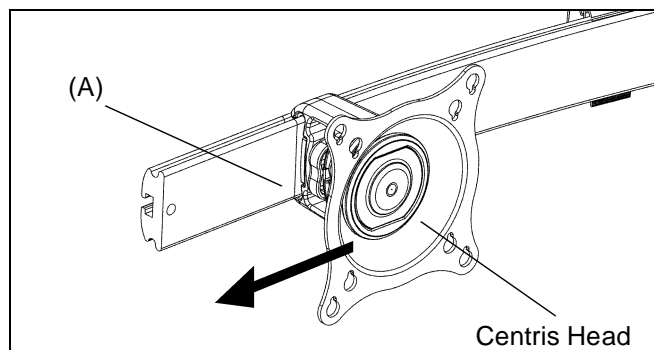

Figure 7
2. Remove Centris head from array (A). (See Figure 7)